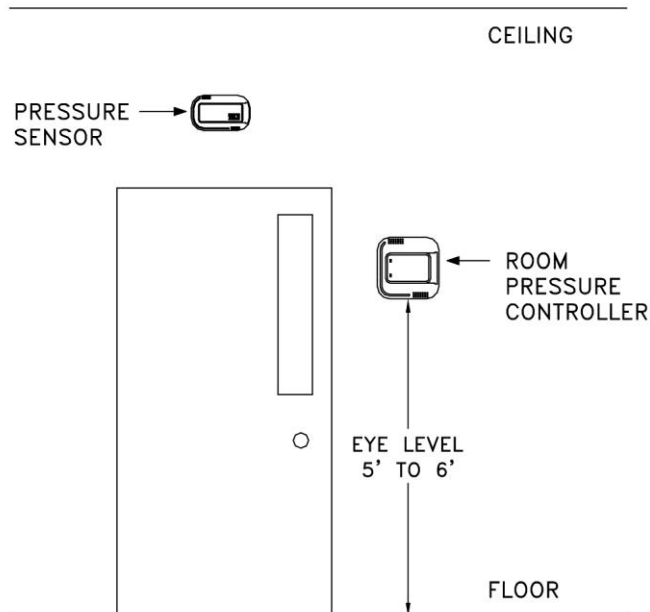

Figure 1: Typical Installation
1. Determine pressure sensor location (Figures 1, 2 and 3). Pressure sensor typically mounts in the reference space, and the dummy housing mounts in the laboratory.
1. Select the mounting location of the pressure controller. The construction plans normally show the mounting location. If no location is specified, then the unit is typically installed as shown in Figure 1, either in the laboratory or in the hallway.